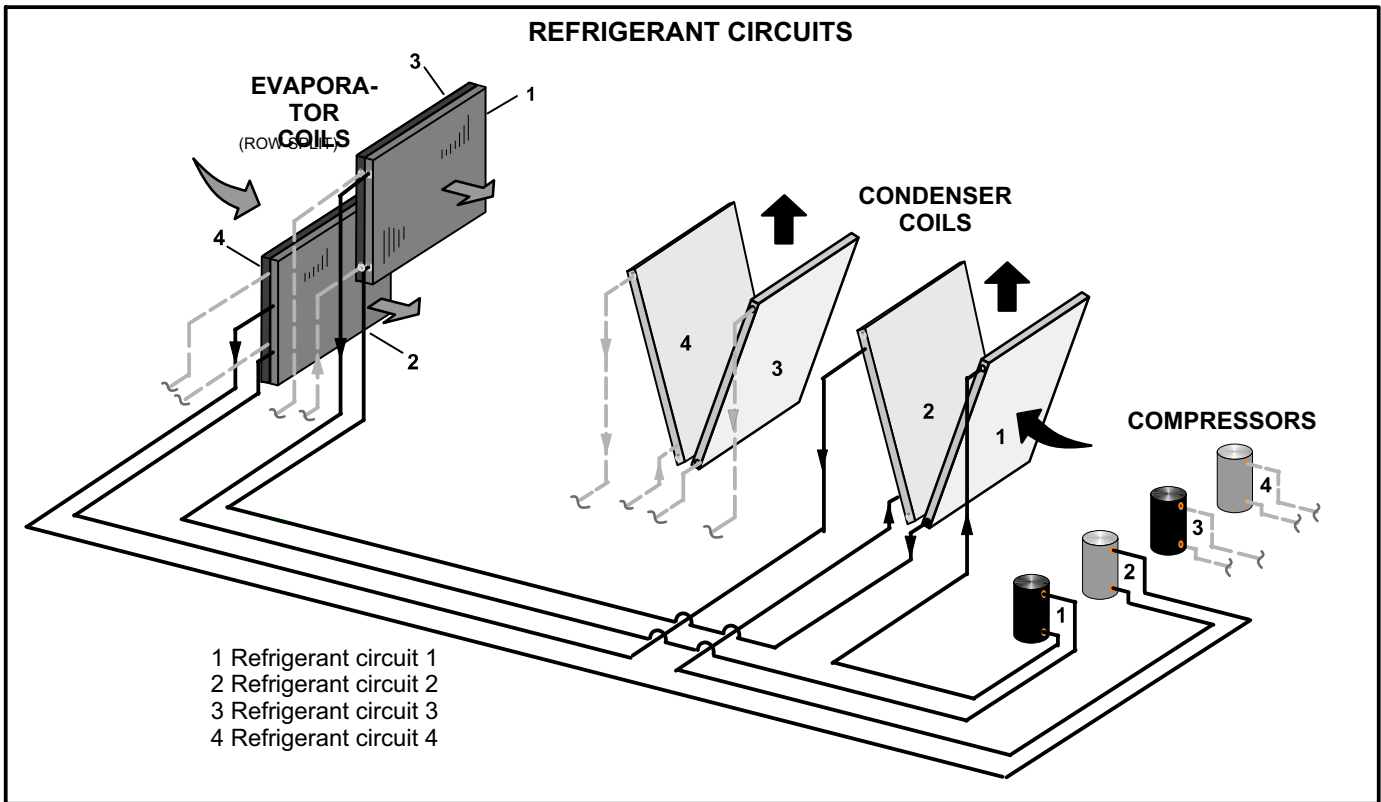

FIGURE 31
- 3- Each refrigerant circuit is separately charged with R410A refrigerant. See unit rating plate for correct amount of charge. See figure 31 for refrigerant routing on units equipped with a variable air volume supply air blower. See figure 49 for refrigerant routing on units equipped with a hot gas reheat coil.